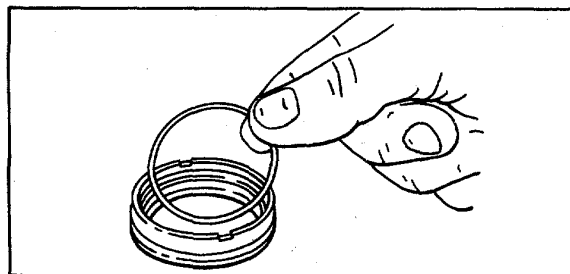

Figure 20.
5. With fingers or two screwdrivers remove bronze rotating part of seal from drive shaft (refer to Fig. 20).
4. Install new O-ring in I.D. of bronze rotating part of seal (refer to Fig. 20).